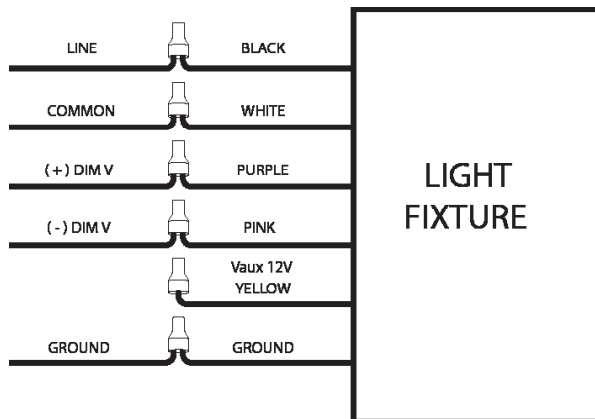

Fig: 13
5. Align **Surface Mount Adapter Plate** to the **Housing Cover**. Using (4) **Screws (provided)** secure **Surface Mount Adapter Plate** and **Housing Cover** to the **Surface Mounting Plate**.
6. Follow appropriate wiring instructions per code (Fig. 13).
9. Follow appropriate wiring instructions per NEC and local code (Fig. 13).
2. Connect wires per NEC and local code as shown in wiring diagram (Fig. 13). Push all wires back into the **Junction Box**. Be careful not to pinch wires. Mount the **Cross Bar** on Junction Box.
Universal voltage driver permits operation at 120V through 277V, 50 or 60 Hz. For 0-10V dimming, follow the wiring directions as shown in Fig. 13.